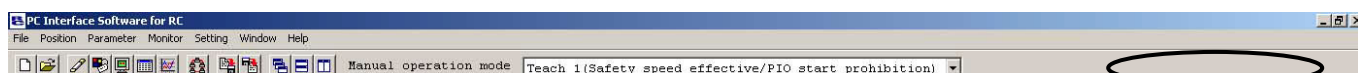
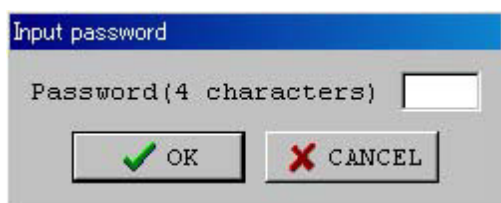

Fig. 17.1 Menu Bar
Fig. 17.2 Input Password Window
- (1) Right click a blank part of the toolbar (Appendix Fig. 17.1) while pressing the **Ctrl** key, then input password window as shown in Fig. 17.2 is displayed.